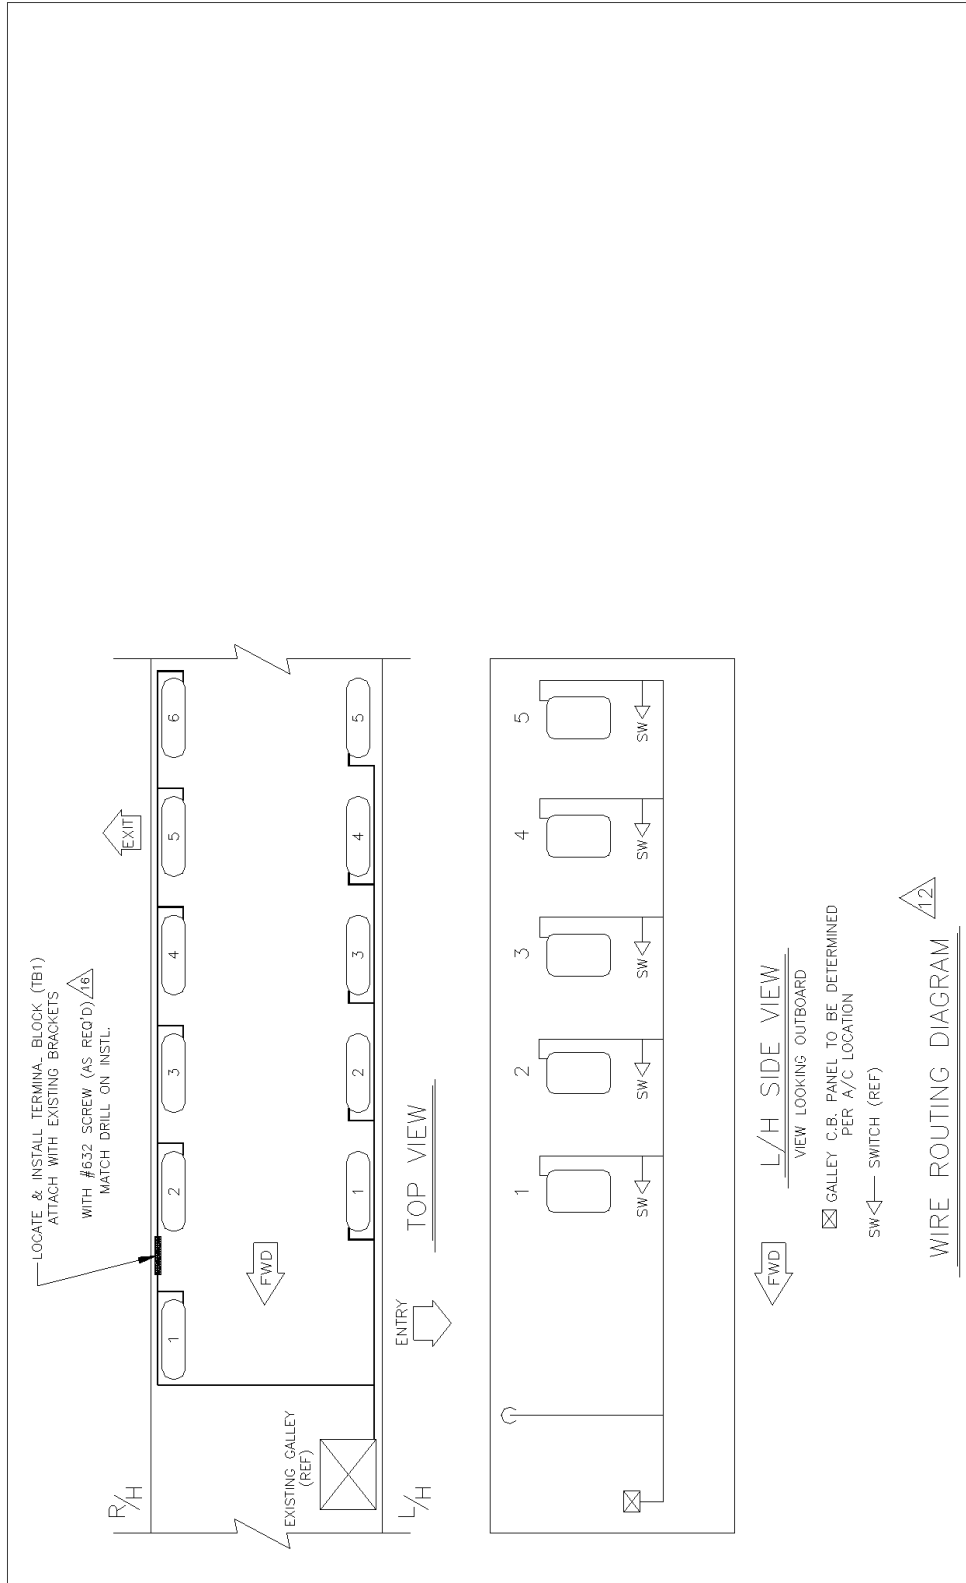

FIGURE 7 / GRAPHIC 25-23-02-991-007
- A. Refer to FIGURE 4/ GRAPHIC 25-23-02-991-004 thru FIGURE 7/ GRAPHIC 25-23-02-991-007